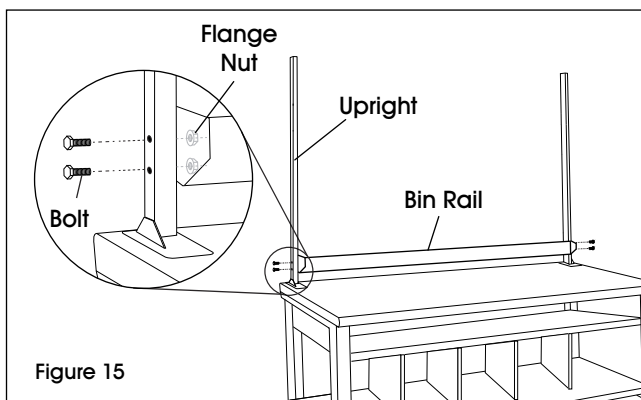

Figure 15
1. Line up bin rail (1) with uprights at desired height.
2. Secure to uprights with four 1½" bolts and flange nuts. (See Figure 15)